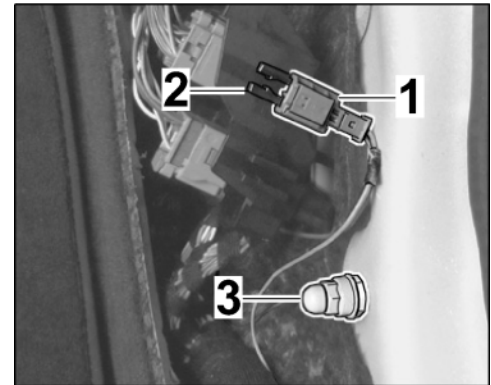

Figure 13
- 2.3.7 Push pin connector socket onto the top guide at the connection point holder (⇒ *Figure 13*).